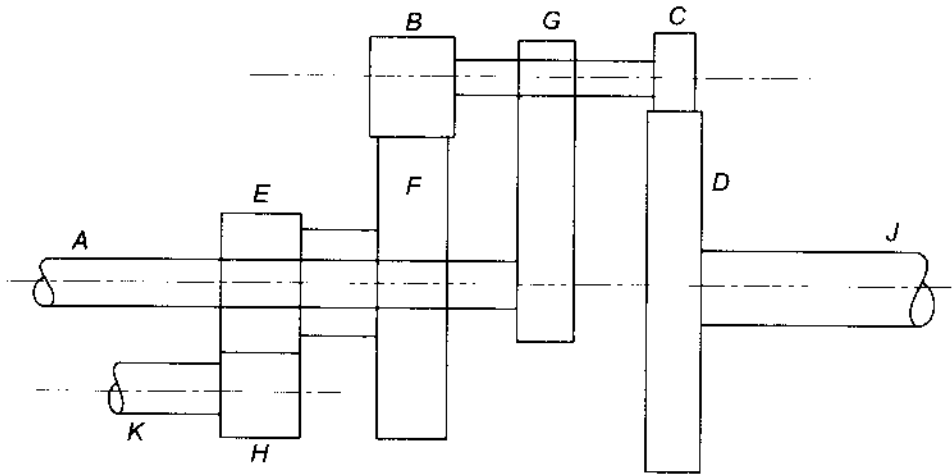

Fig.12.32 Epicyclic gear train
- 11 In the epicyclic gear train shown in Fig.12.32, the arm *A*, carrying the compound wheels *D* and *E*, turns freely on the output shaft. The input speed is 1000 rpm in counter-clockwise direction when seen from the right. Input power is 7.5 kW. Calculate the holding torque to keep the wheel *C* fixed. The number of teeth for different gears are as shown in the figure.